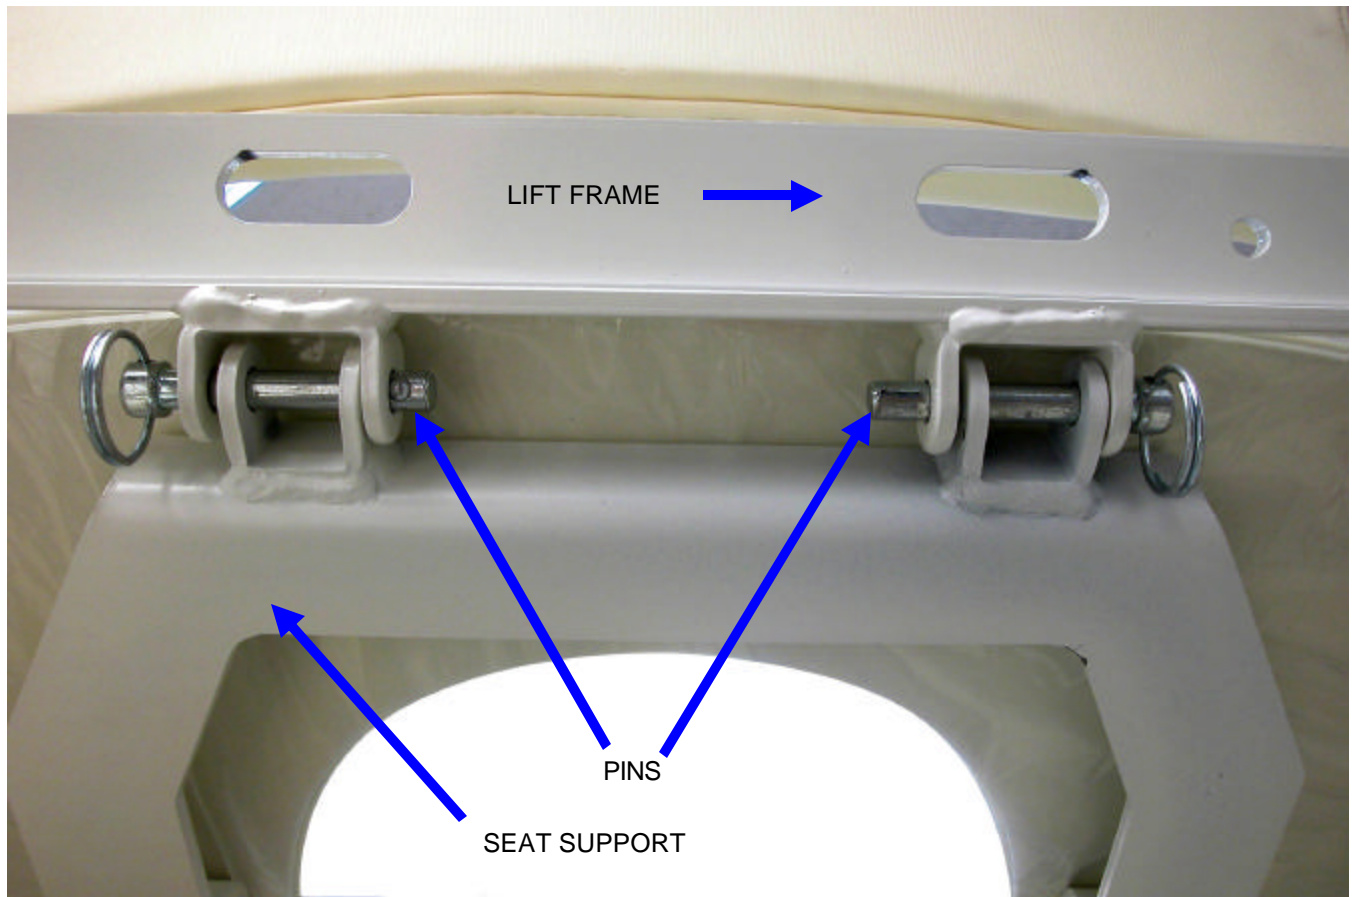

Figure M-4. Seat Support Frame Installation
- b. Remove the pins from the seat support hinge and lift frame. See Figure M-4.
- C.** Install the pins through the seat support hinge and the lift frame hinge. See Figure M-4. If possible, use the new mount pins. While aligning hinge-pin holes, install the mount pins by lightly driving them in with a hammer.